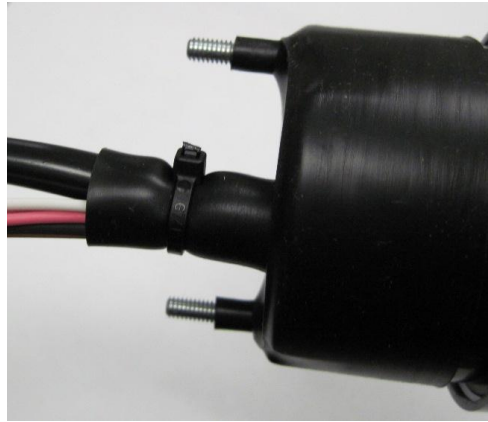

Figure 3. Installed Zip Tie
3. With the gauge boot fully installed on the gauge cup, place the supplied zip tie around the snout on the gauge boot and tighten. See Figure 3.